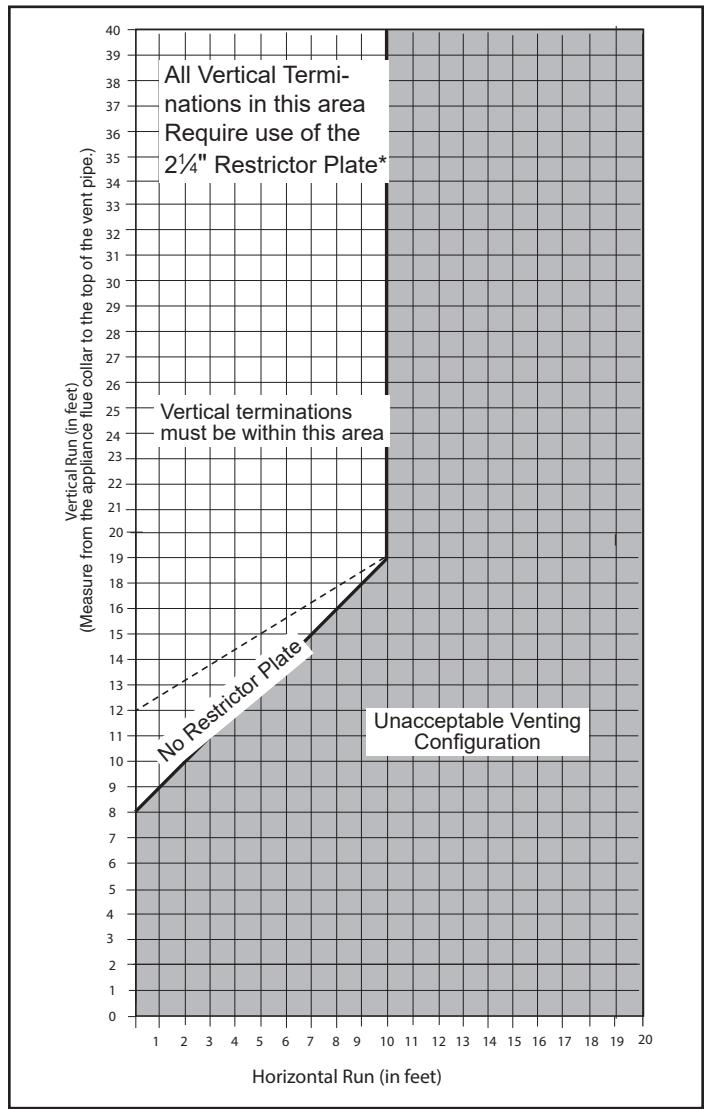

Figure 2.8 - Vertical vent termination window.
A vertical vent system must terminate no less than 8' (2.44 m) and no more than 40' (12 m) above the appliance flue collar. (Refer to Figure 2.8) Adjust the restrictor plate according to recommendations in Figure 2.10. A vertically terminated vent system must also conform to the following criteria:
- Termination height must conform to roof clearance as specified in Figure 2.8.